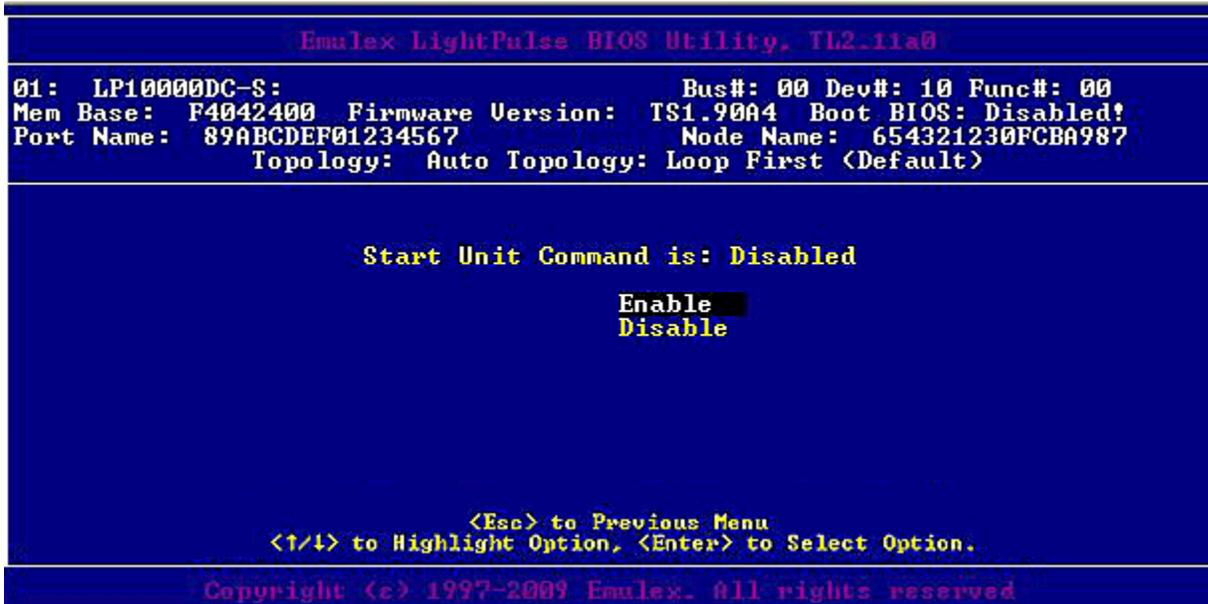

Figure 16: Enable or Disable Start Unit Command screen
2. Select **Enable or Disable Start Unit Command**. Figure 16 is displayed.